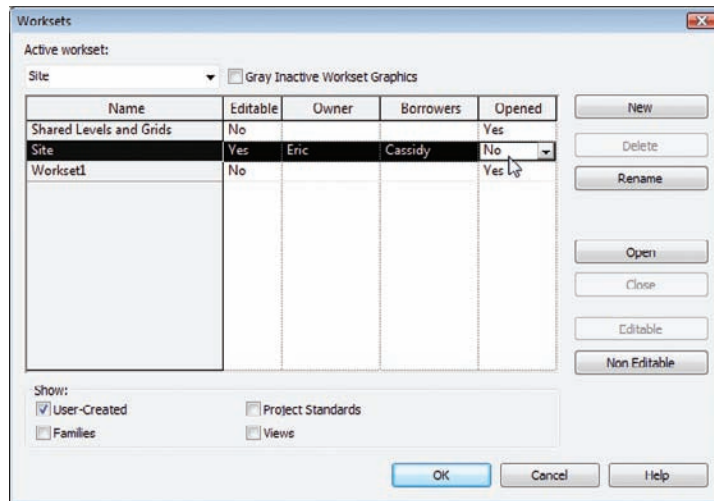

FIGURE 22.17 Changing the Opened status to No
2. In the Site workset, change the Opened status to No, as shown in Figure 22.17.